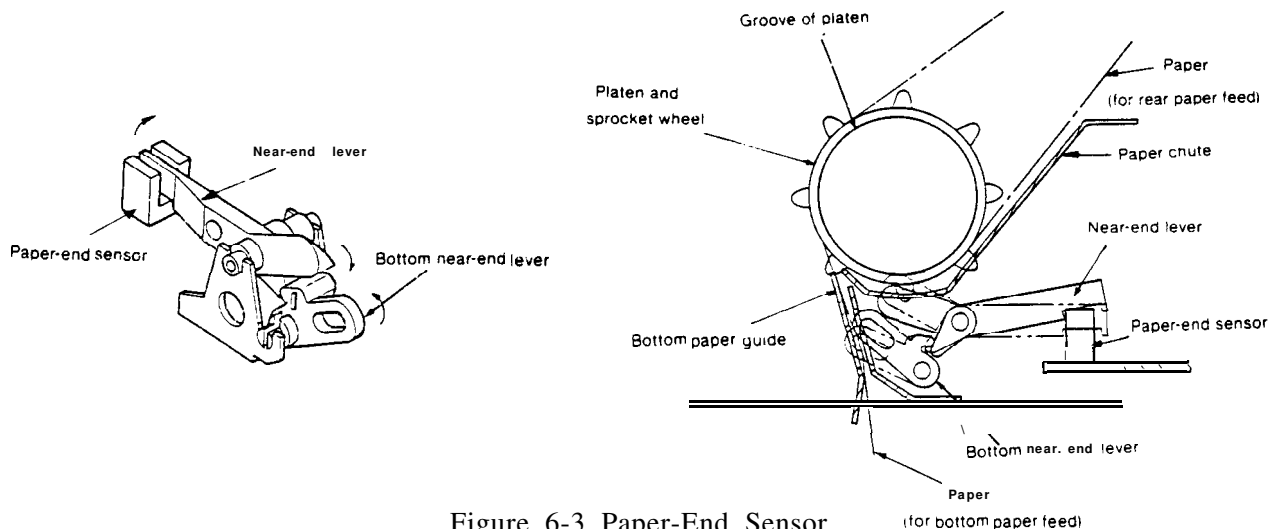

Figure 6-3 Paper-End Sensor
8. Remove paper lint and dust attached to Paper-End Sensor. See Figure 6-3.
Refer to Figure 6-3, Page 6-7 and perform adjustment as **follows**: